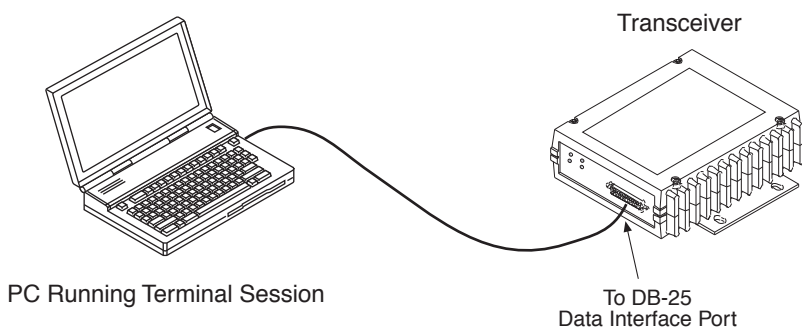

Figure 8. PC Configuration Setup
- a. Connect a PC to the transceiver's DATA INTERFACE connector as shown in **Figure 8**. If desired, a cable may be built using the information shown on **Page 47** of this guide.